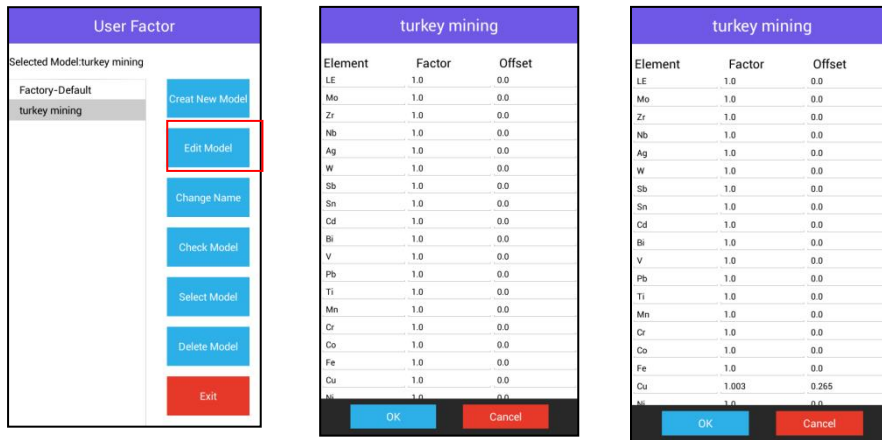

Fig 8
- e) Add the slope and intercept values to "turkey mining" model elements Cu, Fig 8.